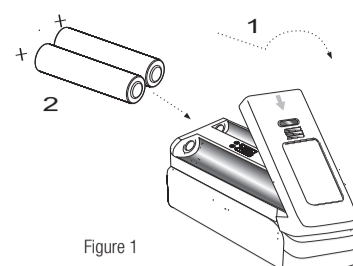

Figure 1
- Replace the battery cover by reversing step 1. (Figure 1)